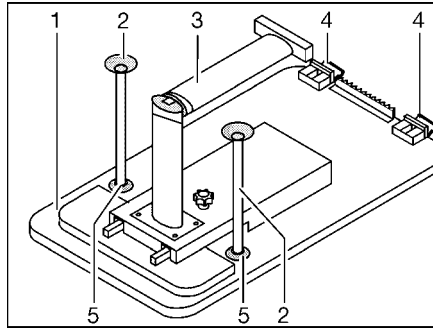

Fig. 93 Bed foundation
- Slightly raise the front of the table-top (Fig. 93,1).
- Unlock table leg (Fig. 93,3) at the hinge and fold it in.
- Push the table-top approx. 45° upwards and remove holders (Fig. 93,4) from the upper mounting rail.
- Depending on the model, insert both additional support legs (Fig. 93,2) into the holders (Fig. 93,5) on the bottom side of the table.